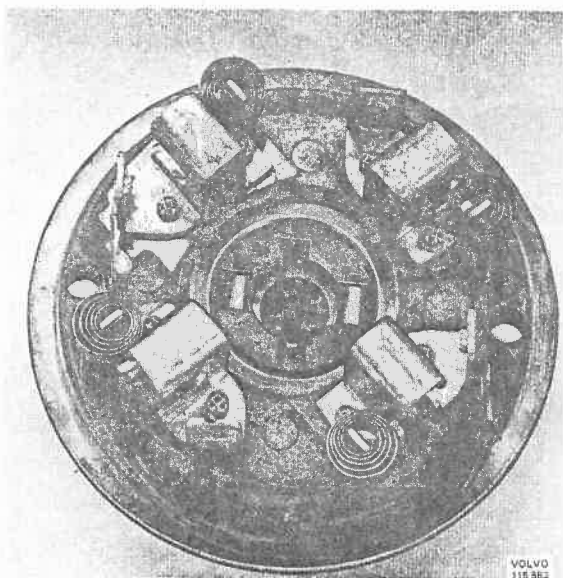

Fig. 33-11. Commutator end bearing shield
4. Remove the commutator end bearing shield from the starter motor housing, Fig. 33-11.